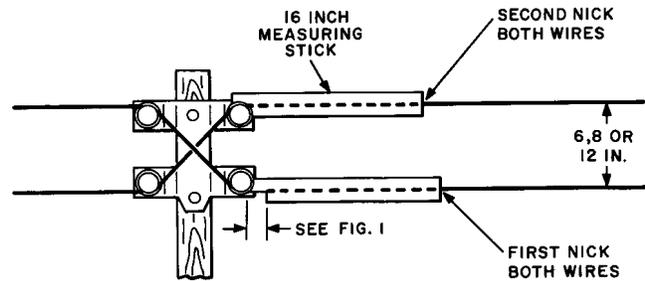

Fig. 8—Measuring Stick Placed for Nicking Sleeves
- (c) Place the stick in the wire groove of the insulator using the corner cut out as shown in Fig. 8. With the cutting edge of the pliers make a second nick in each wire at the end of the stick. The distance between these nicks is the amount which must be cut out so that when the transposition is removed, the sag of the wires will remain the same.